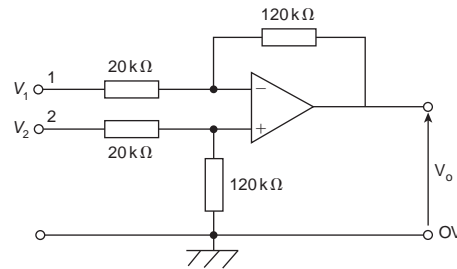

Figure RT5.1
- The power taken by a series inductive circuit when connected to a 100 V, 100 Hz supply is 250 W and the current is 5 A. Calculate (a) the resistance, (b) the impedance, (c) the reactance, (d) the power factor and (e) the phase angle between voltage and current. (9)
- A coil of resistance $20\ \Omega$ and inductance 200 mH is connected in parallel with a $4\ \mu\text{F}$ capacitor across a 50 V, variable frequency supply. Calculate (a) the resonant frequency, (b) the dynamic resistance, (c) the current at resonance and (d) the Q-factor at resonance. (10)
- A series circuit comprises a coil of resistance $30\ \Omega$ and inductance 50 mH, and a 2500 pF capacitor. Determine the Q-factor of the circuit at resonance. (4)
- The winding of an electromagnet has an inductance of 110 mH and a resistance of $5.5\ \Omega$. When it is connected to a 110 V d.c. supply, calculate (a) the steady-state value of current flowing in the winding, (b) the time constant of the circuit, (c) the value of the induced e.m.f. after 0.01 s, (d) the time for the current to rise to 75 per cent of its final value and (e) the value of the current after 0.02 s. (11)
- A single-phase motor takes 30 A at a power factor of 0.65 lagging from a 300 V, 50 Hz supply. Calculate (a) the current taken by a capacitor connected in parallel with the motor to correct the power factor to unity and (b) the value of the supply current after power factor correction. (7)
- For the summing operational amplifier shown in Fig. RT5.1, determine the value of the output voltage, V_o (3)